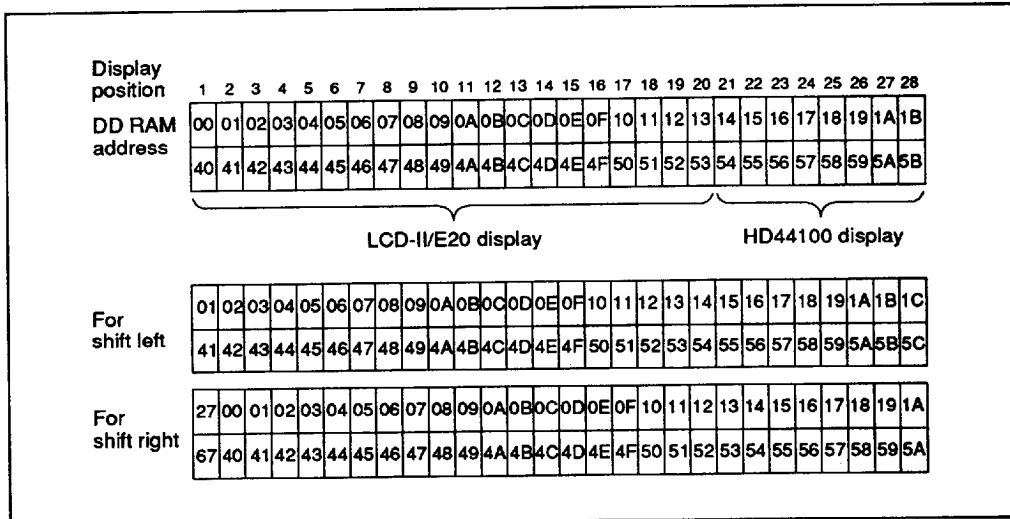

Figure 8 2-Line by 28-Character Display Example
- Case 2: For a 28-character  $\times$  2-line display, the HD66702 can be extended using one HD44100. See figure 8.
When display shift operation is performed, the DD RAM address shifts. See figure 8.